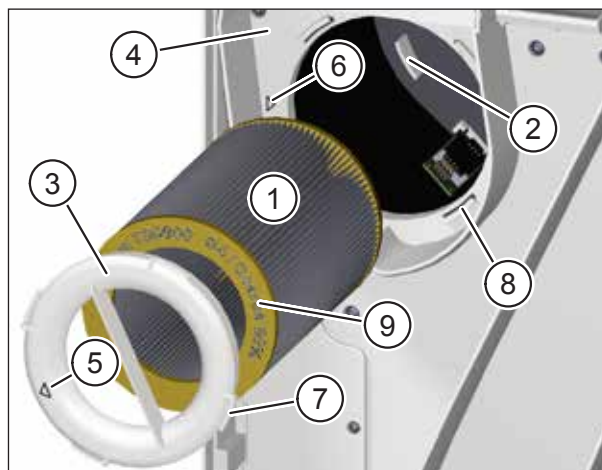

Fig. 21: Inserting the new extract air filter
- ▶ Carefully guide the new extract air filter (item 1 in Fig. 21) into the ventilation unit.
- ▶ Make sure that the air filter slides into the 3 retaining tabs (item 2 in Fig. 21) on the back wall of the ventilation unit.
- ▶ Place the filter ring (item 3 in Fig. 21) on the extract air filter. Make sure that the filter ring lies flat on the intermediate plate (item 4 in Fig. 21).
- ▶ Turn the filter ring clockwise until the arrow on the filter ring (item 5 in Fig. 21) lines up with the arrow for the locking position (item 6 in Fig. 21). Make sure that the 4 tabs (item 7 in Fig. 21) on the filter ring engage in the retainers (item 8 in Fig. 21) on the intermediate plate.
- Only M-WRG-II FS, part no. 750000, may be used as the extract air filter. The part no. and air filter class are imprinted on the yellow end plate of the air filter (item 9 in Fig. 21).